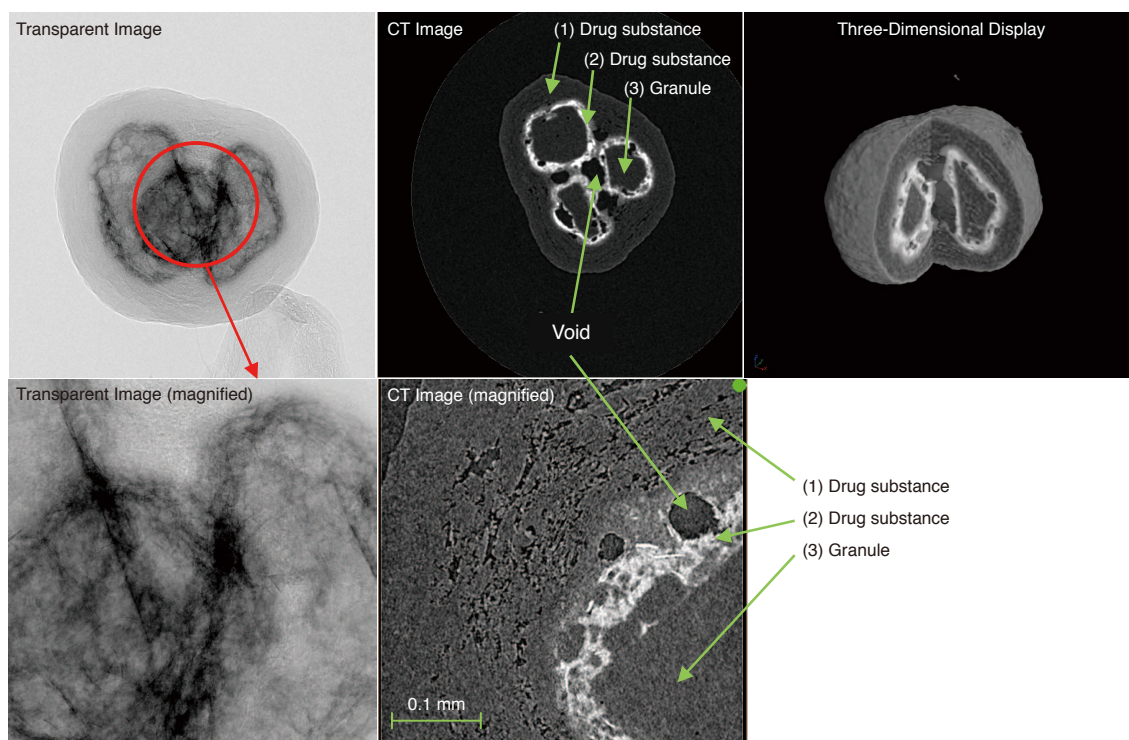

Fig. 6 Observation Images of Granules (1)
Fig. 6 shows a transparent image, a CT image, and a three-dimensional image of granule type 1.
Granule type 1 has a 3-layer construction with an outer low-density drug substance (Fig. 6 (1)) and a slightly higher density drug substance middle layer
(Fig. 6 (2)), which acts as a coating that encloses a separate granule (Fig. 6 (3)). In addition, by generating a magnified CT image, it can be observed that voids exist near the border between drug substances (1) and (2) (Fig. 6 (1), (2)).